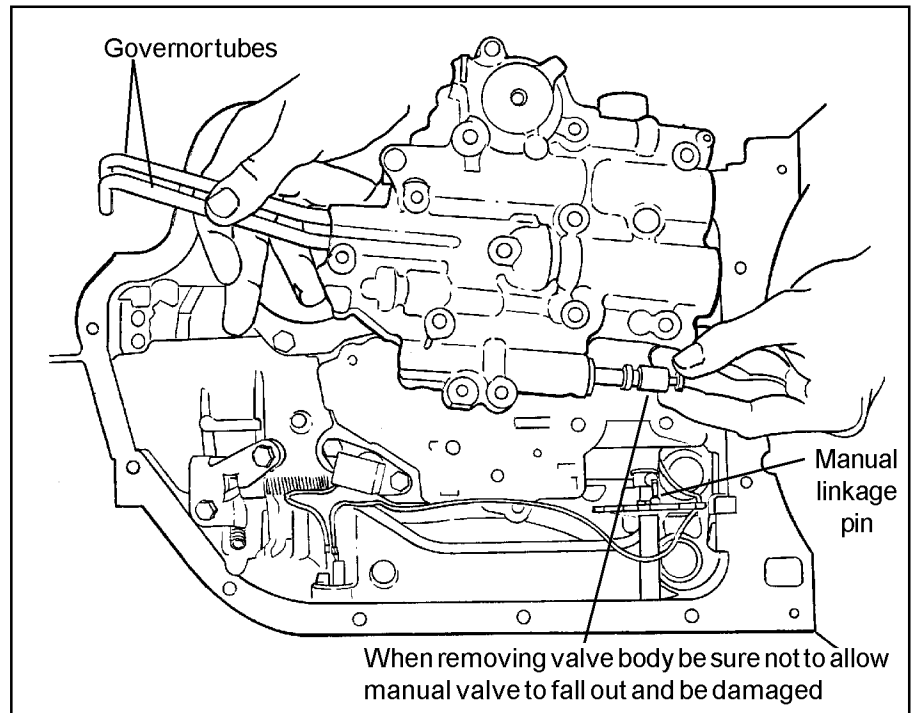
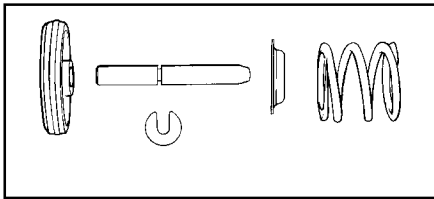

Figure 5
Figure 6
disconnect the spark control switch wire if present. Hold the valve body in place and remove the last bolt. Lower the valve body while at the same time pulling straight down on the governor tubes (See Fig. 5). Place the valve body in the oil pan to avoid contamination. **NOTE:** The front servo may fall out of the case, if it does see **Figure 6** for reassembly order. Use grease or petroleum jelly to hold the servo components
**STEP 13.** Insert the governor tubes into the valve body (**See Fig. 5**). Lay the lower valve body gasket (has "VB" punched in it) into position on valve body (use grease or petroleum jelly to hold it in place). Make sure the manual valve is in its bore. Install valve body onto transmission guiding the governor tubes into their holes at the rear of case. Push up on valve body and tubes and engage the manual valve on the shift linkage. Install one bolt to hold valve body in place.